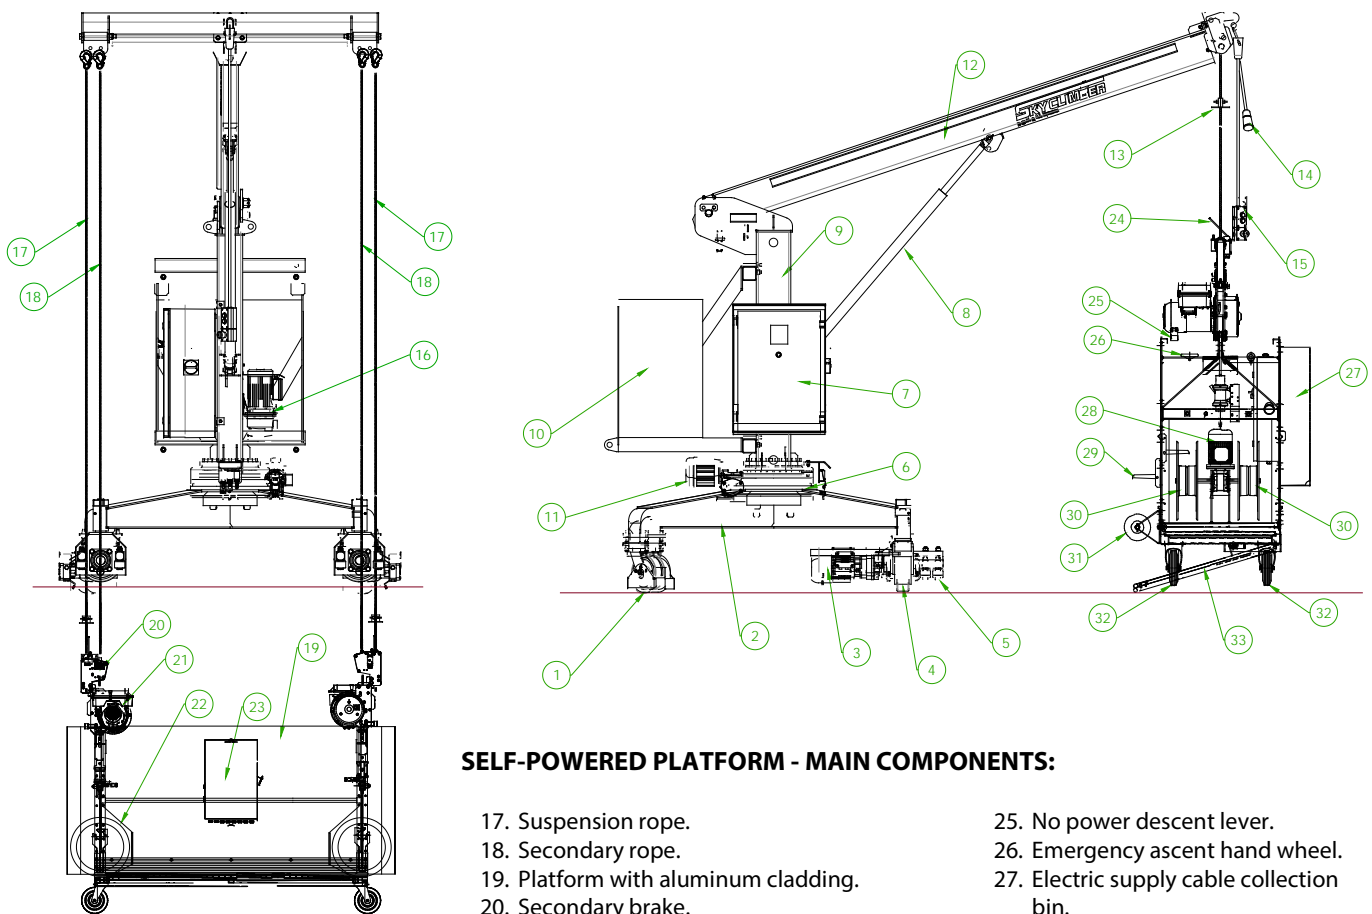

Fig. 3 - References.
- Electrical control box panel (fig. 3 - point 7).
- Pendant control (fig. 3 - point 15).
- Central control box on platform (fig. 3 - point 23).